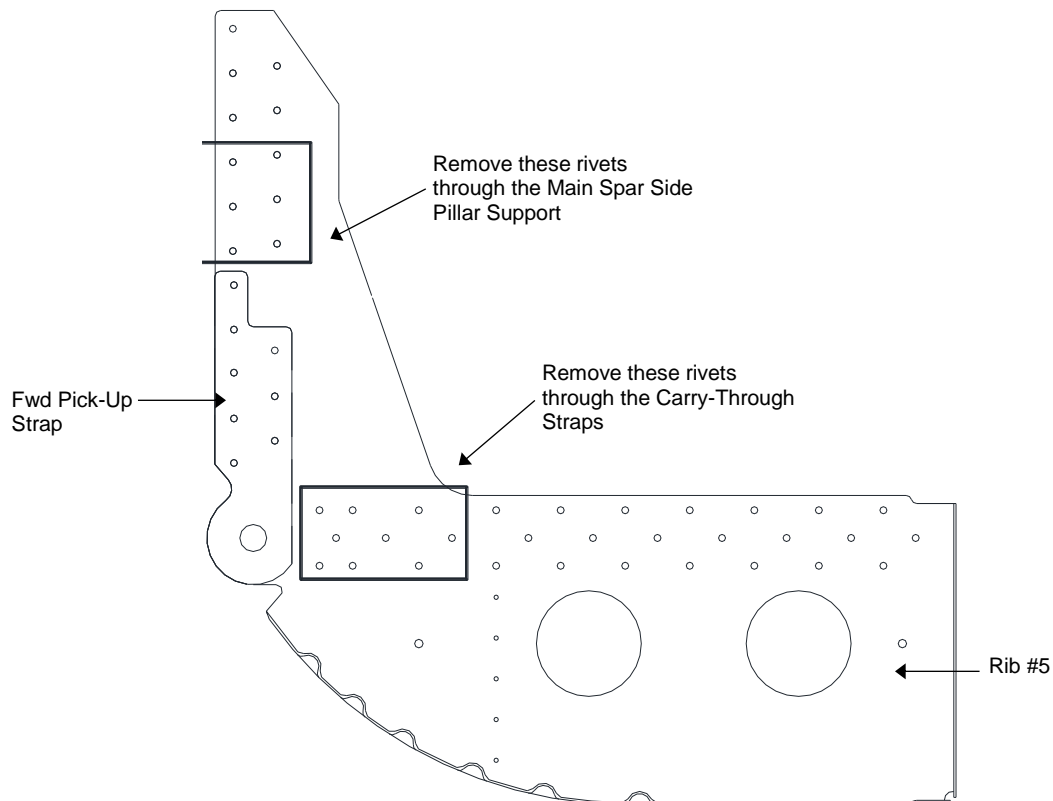

Figure 33: Rivets to be removed. Rib 5 shown, Rib 6 similar.
- 1) Remove the blind rivets (CR3213-5) attaching Rib #5 and #6 to the Main Spar Side Pillar Assembly, above the Fwd and Aft Pick-Up Strap locations as shown in Figure 33.
- 1) Carefully remove the solid rivets (MS20470AD5) attaching Rib #5 and #6 to the Long, Intermediate and Short Carry-Through Straps as shown in Figure 33.